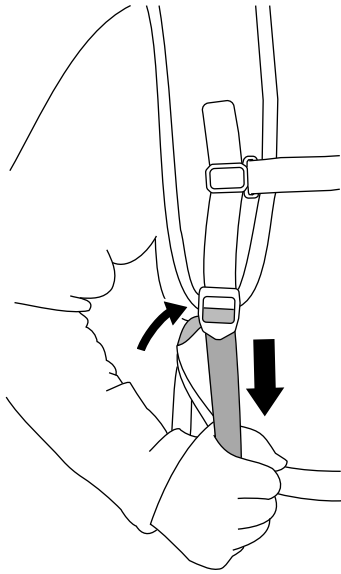

Figure 6
3. Pull down on the shoulder strap adjuster until the straps are snug (Figure 6).